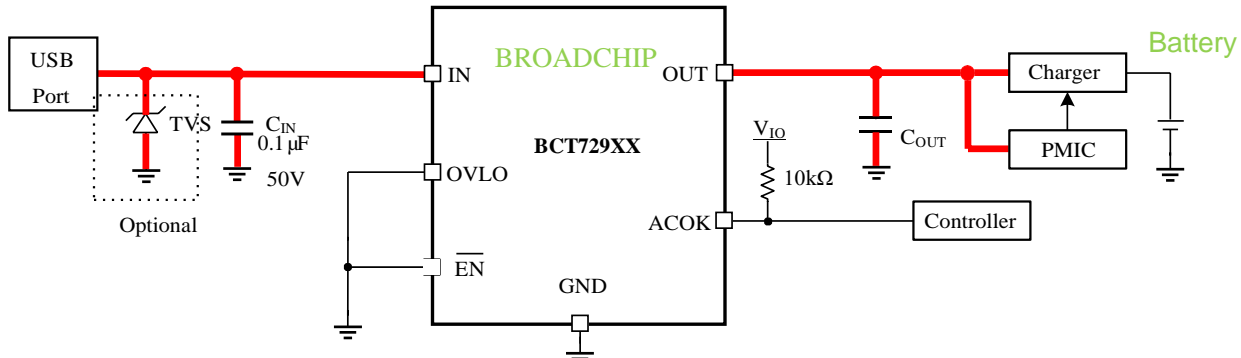

Figure 4 BCT729XX typical application circuit(using default OVP threshold)
3. Red bold paths on figure 4 and 5 are power lines that will flow large current, please route them on PCB as straight, wide and short as possible.